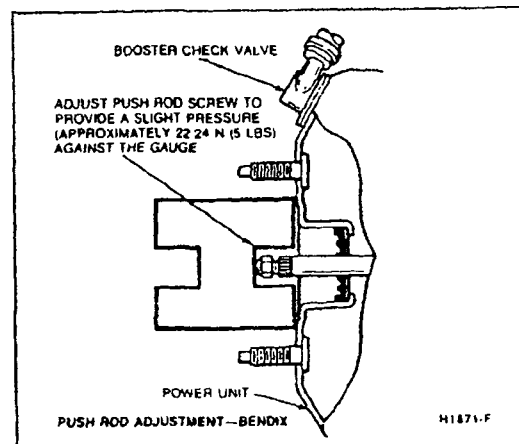

FIG. 2 Brake Booster Push Rod Measurement
2. With the engine running, gauge and adjust the push rod length (Fig. 2). A force of approximately 22N (5 lbs) applied to the push rod with the gauge will ensure that the push rod is seated within the power unit.